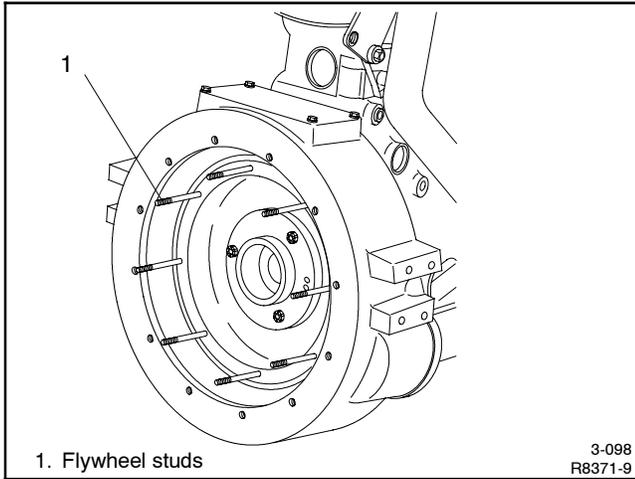

Figure 4-21 Flywheel Studs
21. If studs are used, apply Loctite[®] No. 271 red to stud threads and install into flywheel as shown in Figure 4-21. Install studs completely into flywheel. Apply Loctite[®] No. 242 blue to stud threads on nut side.